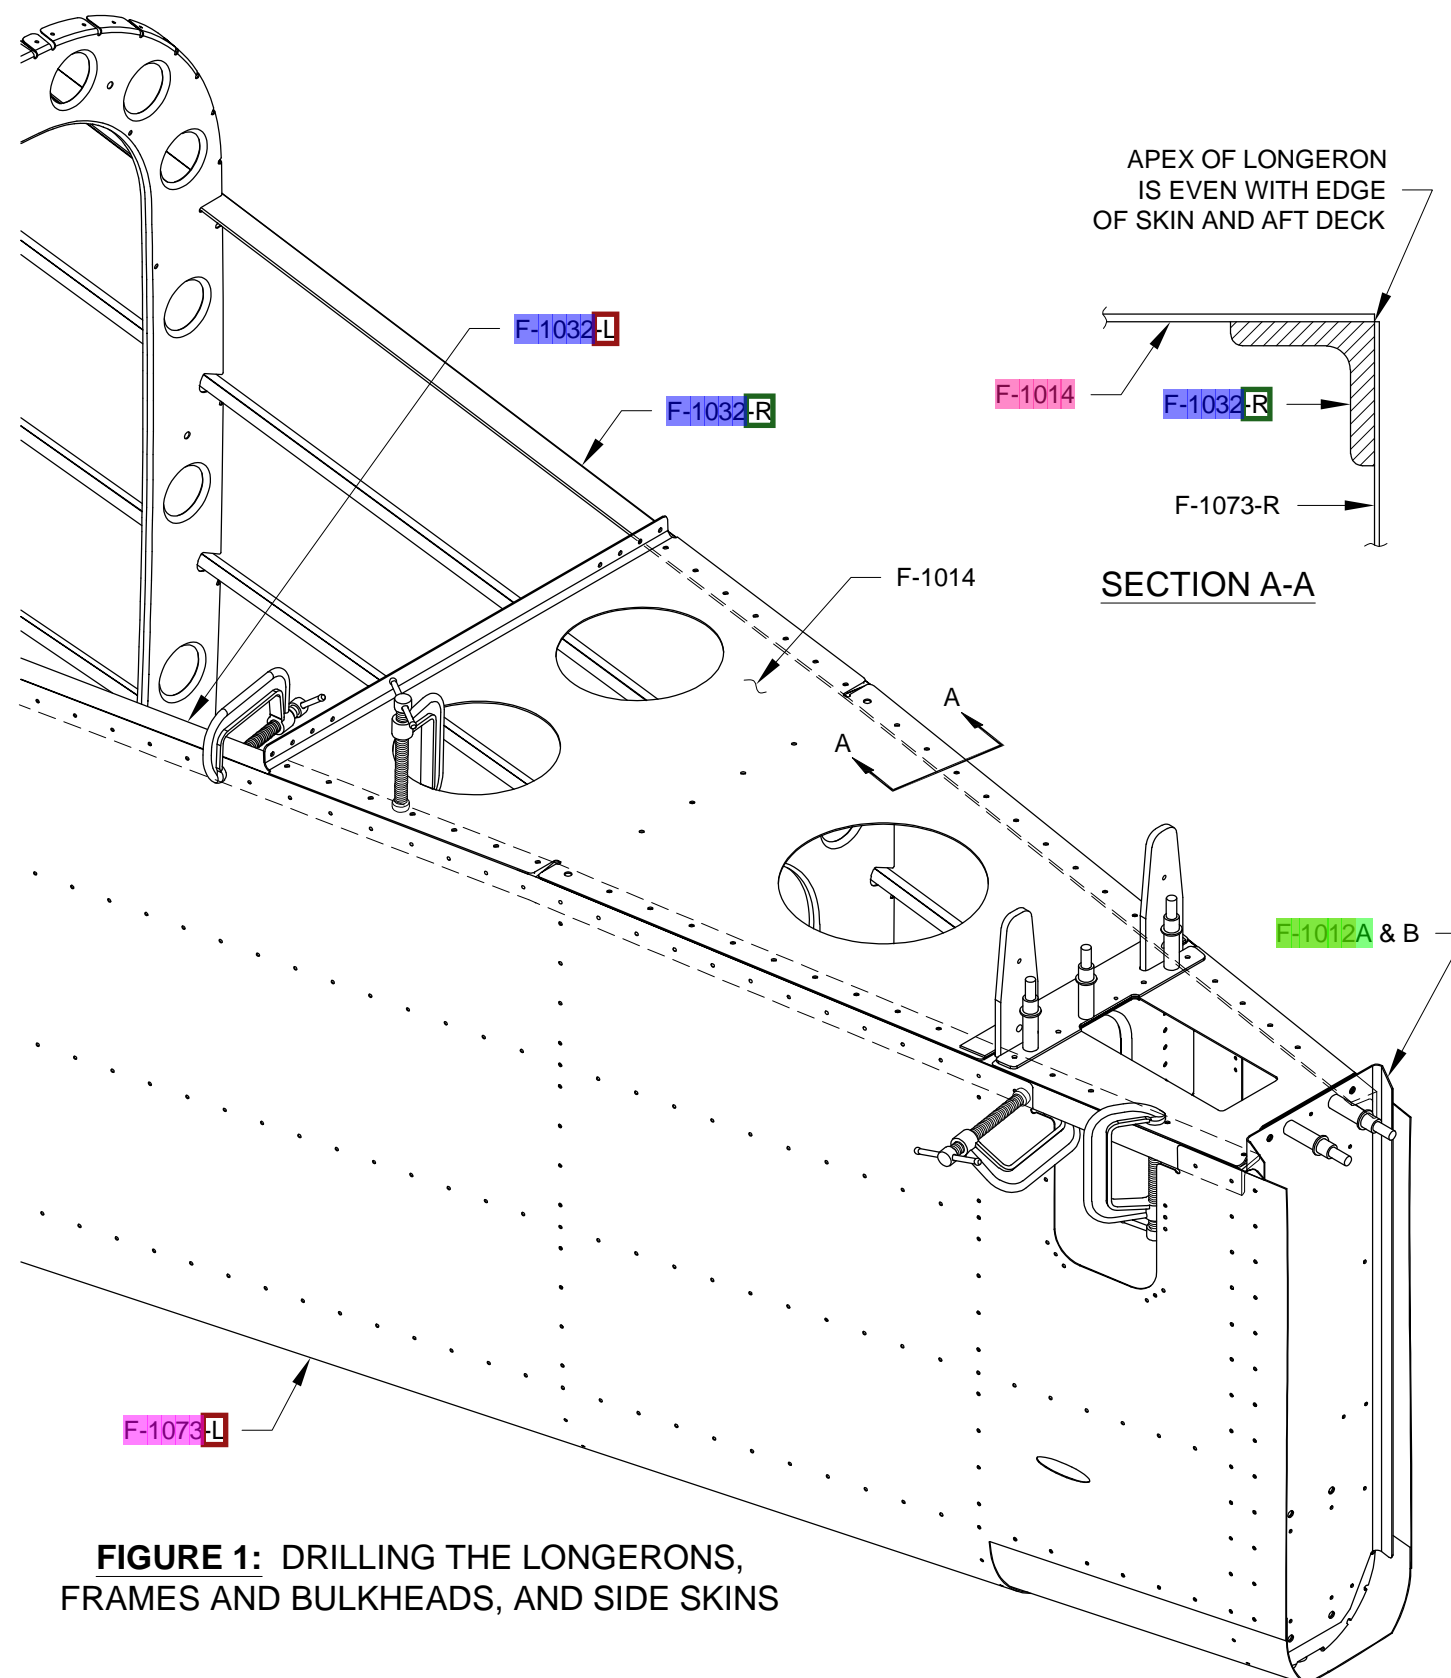

FIGURE 1: DRILLING THE LONGERONS, FRAMES AND BULKHEADS, AND SIDE SKINS
Step 1: Make sure the bend in the **F-1032** Longerons is still located at the break in the **F-1073** Side Skins, then clamp the longerons to the **F-1014** Aft Deck and the side skins as shown in Figure 1 (only one side is shown clamped). For proper alignment, the apex (corner) of the longerons must be clamped even with the edges of the skins over their entire length. They must also be clamped even with the side edges of the **F-1014** Aft Deck. See section A-A in Figure 1.